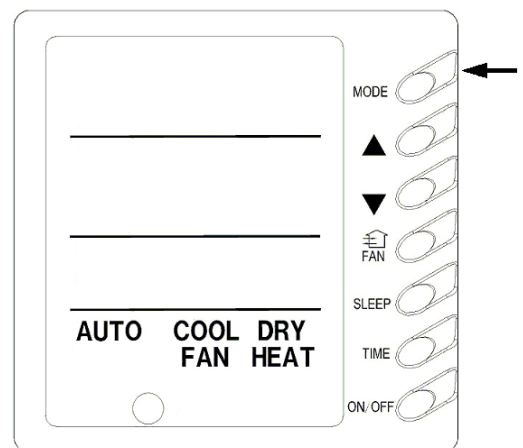

Fig.6
5) Running Mode Setting (Fig.6)